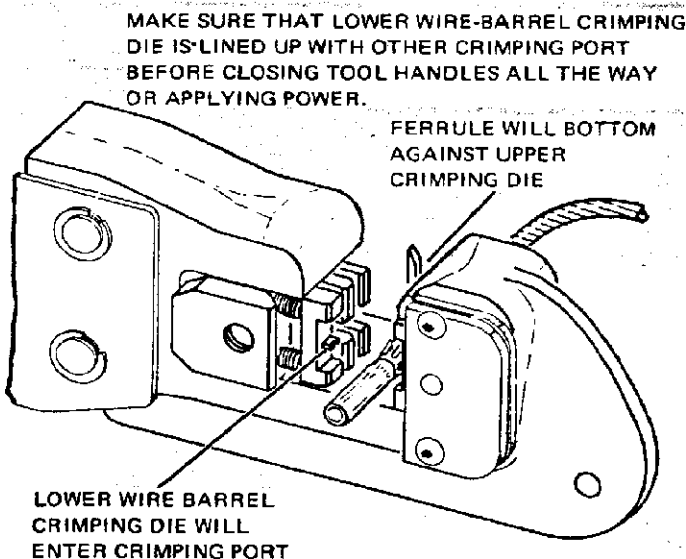

Figure 8
- (i) Slide assembled contact over ejector for dies 69690-2 and 69690-3. See Figure 8.
- (l) Braid section of ferrule should now be bottomed against upper braid ferrule crimping die. See Figure 8.
1. Place contact on stationary die as previously described. See Figures 8 and 9.